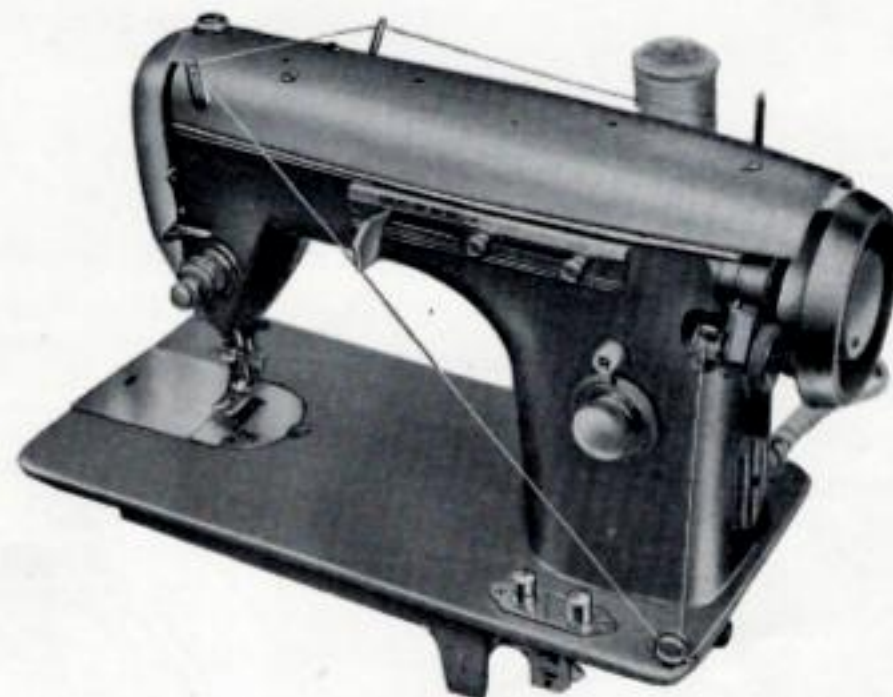

Fig. 2
2. Place a spool of thread on the spool pin (Fig. 2). Draw thread from spool over guide then downward across machine from left to right.